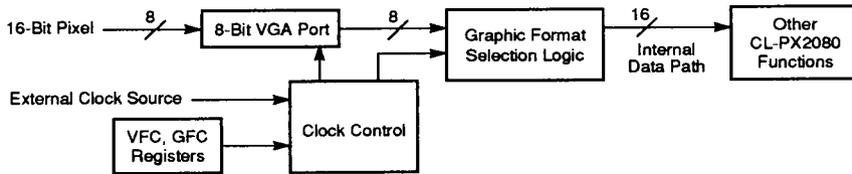

Figure 3–15. Accepting 16-Bit Color Data Through The 8-bit VGA Port
In the Extended Color (EC) Modes the CL-PX2080 VGA port accepts 16-bit data, as illustrated in Figure 3–15. Extended color modes include compatibility with HiCOLOR™ modes used in some devices. An extended color mode is selected by entering the appropriate code in the VFC Register, as described in Section 4.7.3 on page 73.